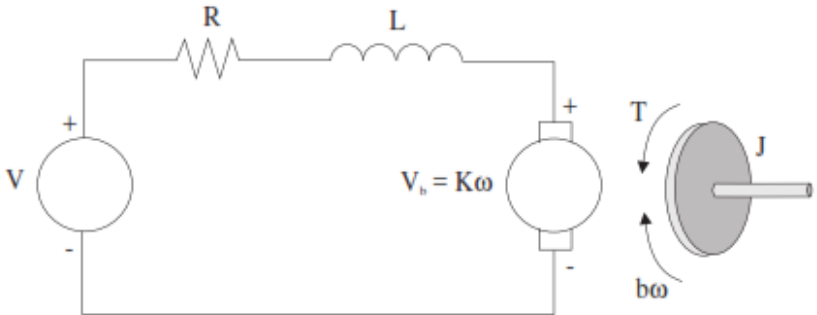

Fig. 12. Schematic Representation of a DC motor
1. Consider the following physical system of a DC motor, whose electric circuit of the armature and the free body diagram of the rotor are shown in Fig. 12.